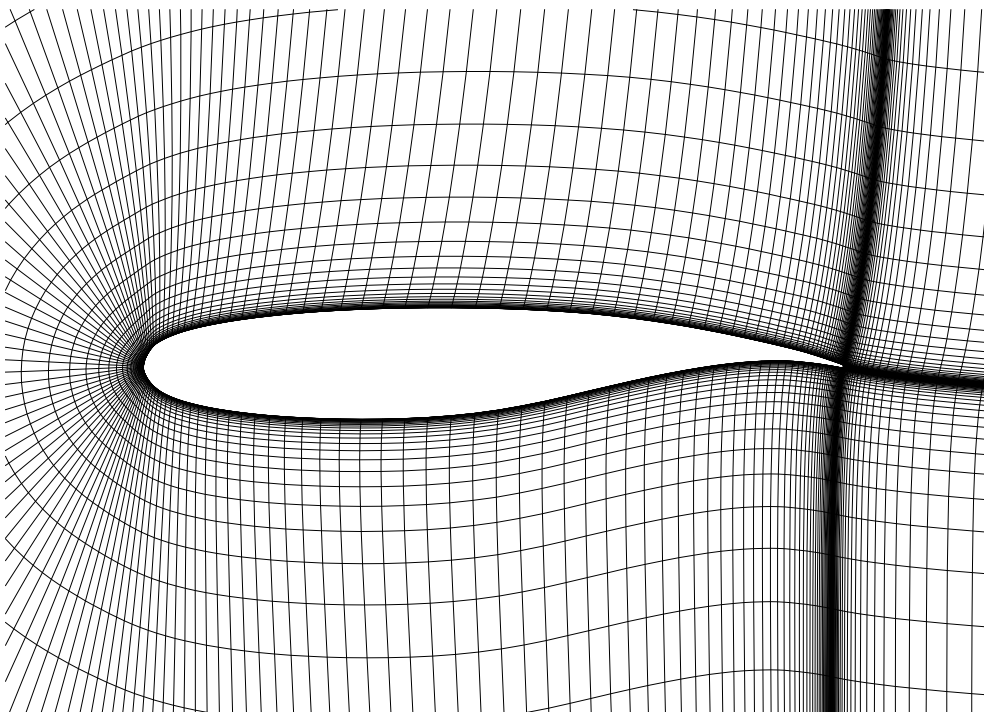

Figure 6.8: Algebraic grid for Test Case 3
5. Algebraic H-grid plot (figure 6.8)